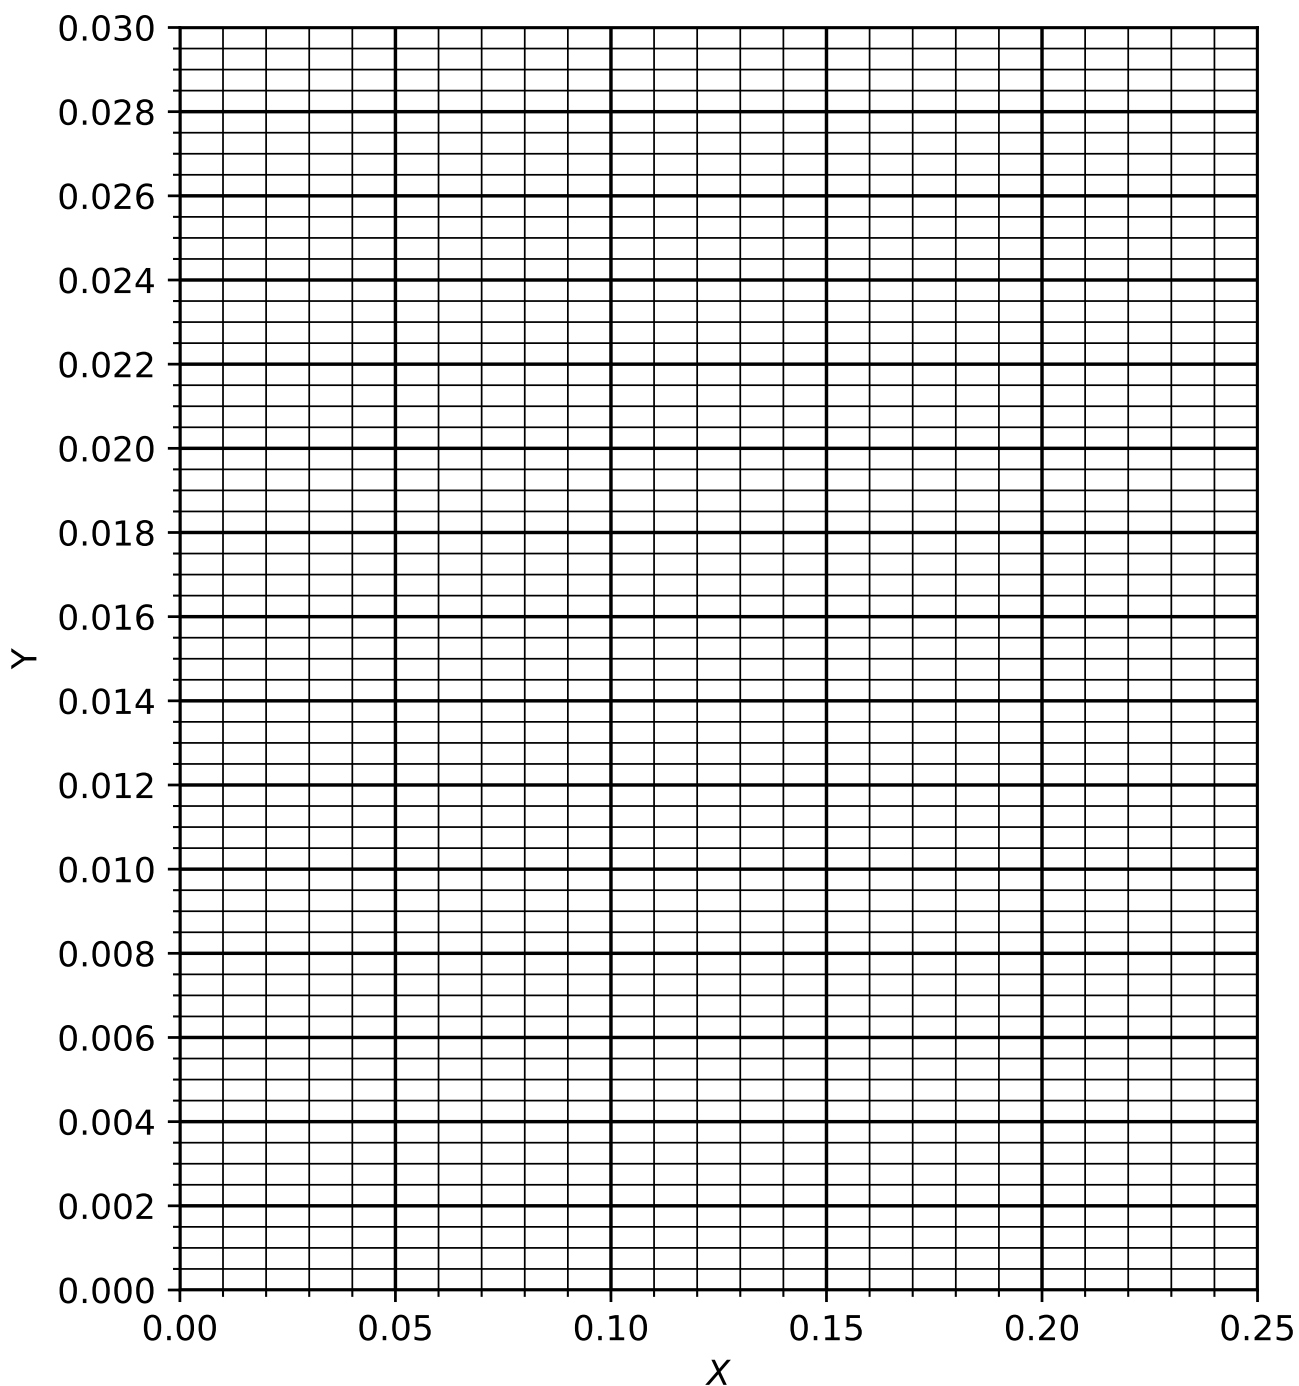

Figure 23: A blank X-Y graph for use in Q. 7.33.
- b) Determine the number of real plates required. A blank  $X$ - $Y$  graph is provided in Fig. 23. **[10 marks]**